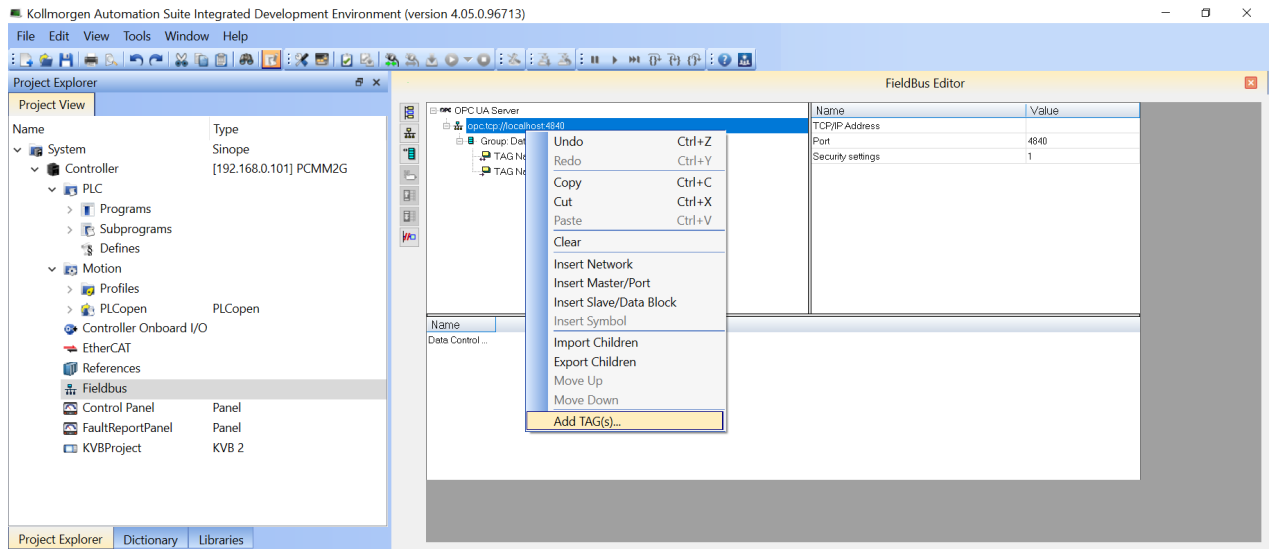

Figure 2-17: Add TAG(s) option
1. In the OPC UA Server tree, right-click a Master node and select the **Add TAG(s)** option. (Figure 2-17)